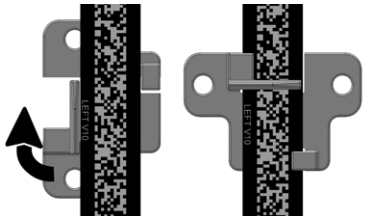

Figure 45: APS position indicator clip is inserted (left) and turned 90° clockwise
2. Insert code tape in the clip guide rails (Figure 45).